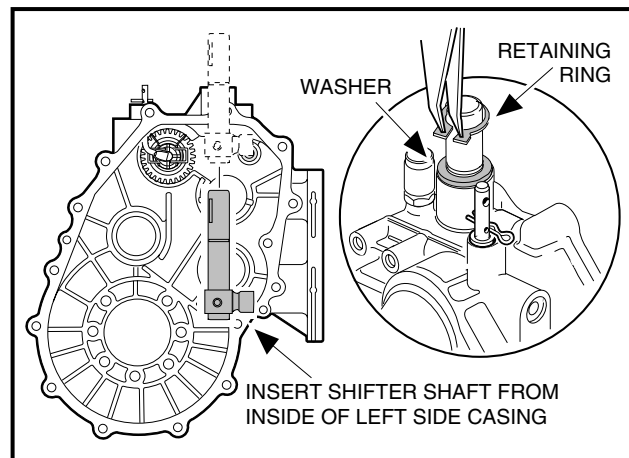

FIGURE 10-73
6. Install the shifter shaft into the left (driver) side casing as shown (**Figure 10-73, Page 63**). Then install the washer and retaining ring on the shifter shaft outside of the casing (**Figure 10-73**).